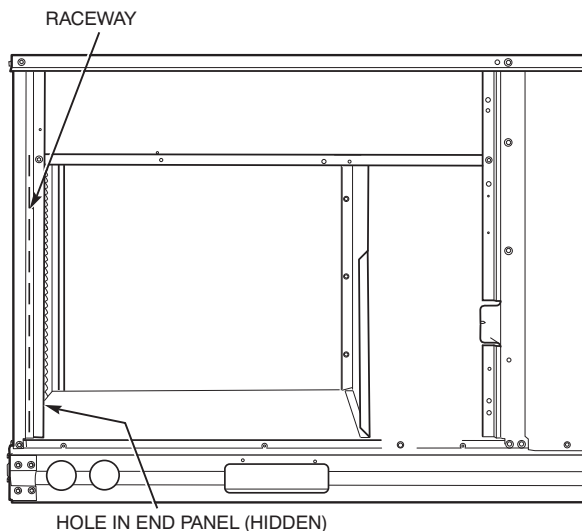

Fig. 27 — Field Control Wiring Raceway
Pass the thermostat control wires through the hole provided in the corner post; then feed the wires through the raceway built into the corner post to the control box. Pull the wires over to the terminal strip on the upper-left corner of the Controls Connection Board. See Fig. 27.
2. Feed wires through the raceway built into the corner post (see Fig. 27) to the 24-v barrier located on the left side of the control box. The raceway provides the UL-required clearance between high-voltage and low-voltage wiring.